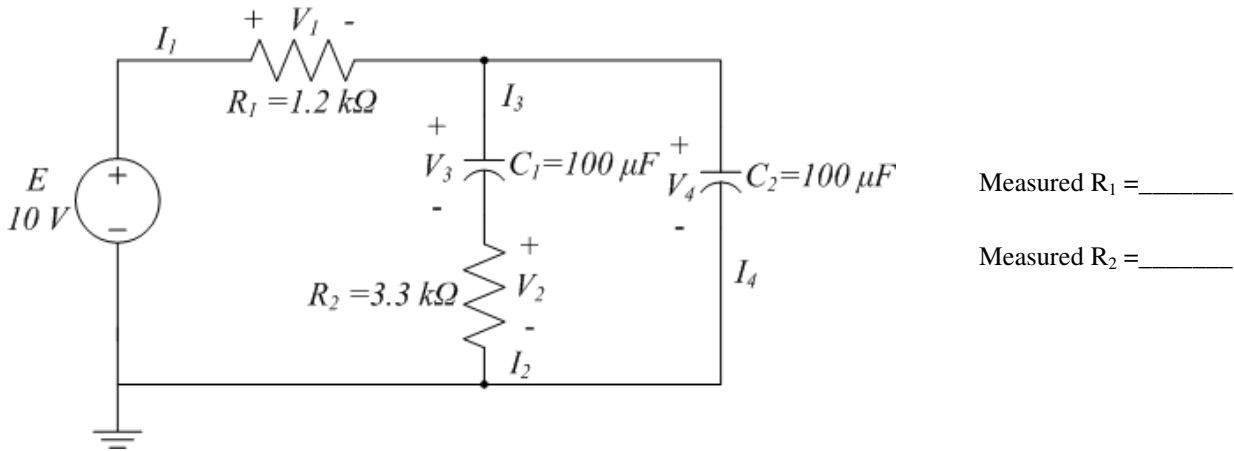

Figure 6.1: Series-parallel RC Circuit
1) Construct the network of Fig. 6.1. Insert the measured resistor values.